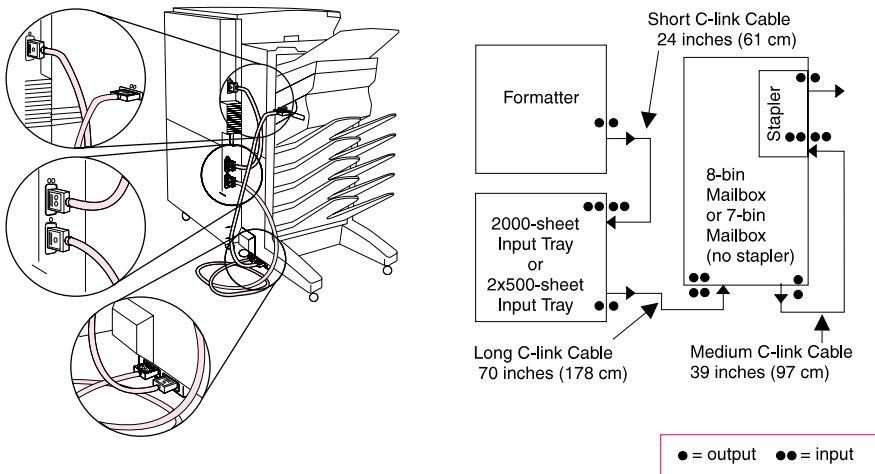

Figure 7-7 Communications Link (C-link) Cables, Supported Daisy Chain Connections
Note It is important that the C-link cables are installed in the supported daisy chain configuration as shown in figure 7-7. This is so that the devices are recognized and correctly reported on the Event Log.
If any of the installed devices are not shown on the configuration page, verify that the C-link cabling is correctly connected and functional (figure 7-7) and that DC power is available to the paper handling devices. Check and reseal suspect cable connections. If any of the cables are replaced, you must cycle the power to have the printer recognize the device again.
- 5 Verify that the C-link cables are connected as shown in figure 7-7 on page 571.